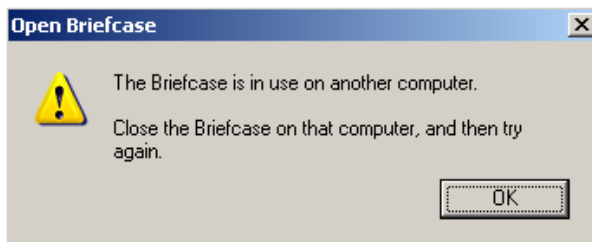

Figure 12-6: Open Briefcase
- ♫ Sometimes *Windows* thinks that you have a file open if the *Explorer* window has a folder open in the *Briefcase*. To avoid this, simply close the *Explorer* window or click on another folder. Figure 12-6 is a typical message you will see if you are accessing the briefcase through *Windows Explorer*.